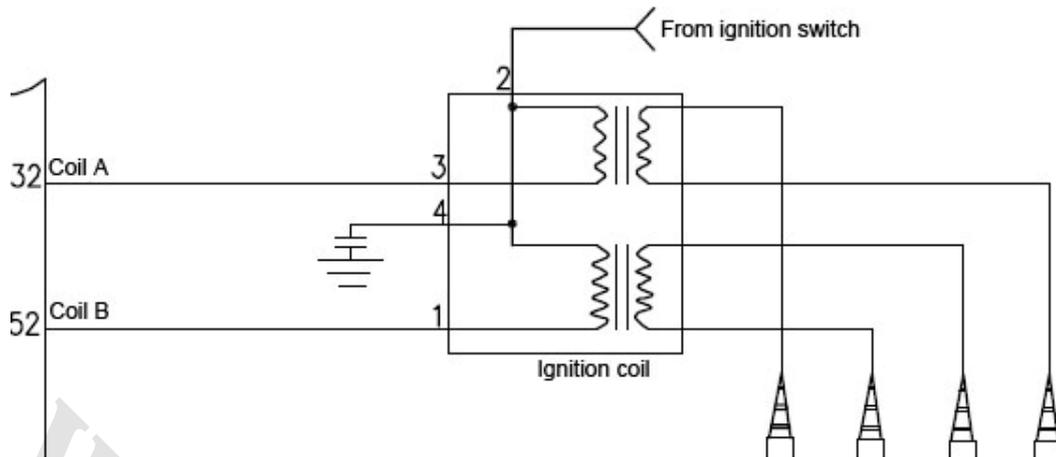

Fig. 1-18
(1) Function: To convert primary winding low voltage electricity into secondary winding high voltage electricity, to produce spark to burn the mixture of fuel and air in the cylinder.
(2) Separate ignition (grouped ignition): Based on the signal from the crankshaft/camshaft position sensor, the ECU controls the grounding of the three ignition coils respectively for the ignition of the engine.
(3) Structure and principle: Consists of primary winding, secondary winding, iron core, housing, etc. When the battery is connected with the primary winding, the primary winding will be charged. When the circuit of the primary winding is cut down by the ECU, the charge will stop. Meanwhile, the high voltage electricity will be induced in the secondary winding.
(4) Wiring diagram of the parts (Fig. 1-18)